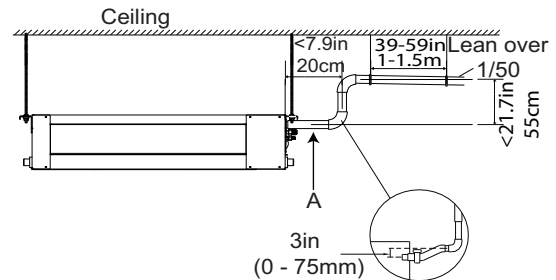

Fig. 39 —Condensate piping with a pump
- Ensure the highest point in the condensate piping is as close to the unit as possible (see Fig. 39).
- To prevent air bubbles, keep the drain hose horizontal or slightly upward. See letter (A) Figure 39.